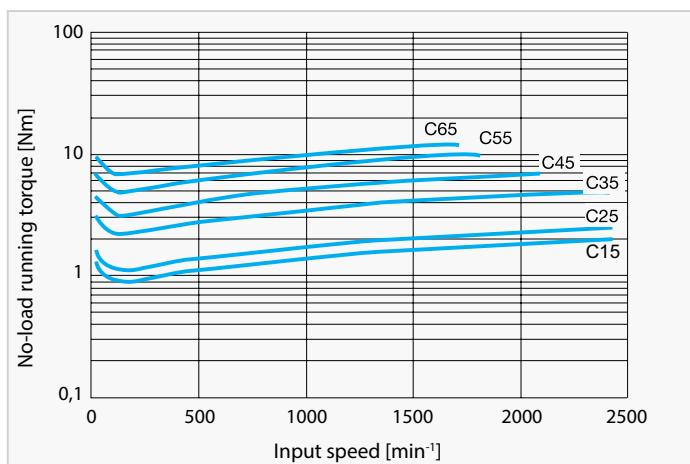

Fig. C1 Input side no-load running torque
- Fig. C1 shows the average no-load running torque after gearbox is run in (not factory-new condition).